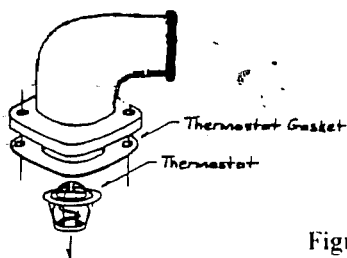

Figure 1
6. Clean thermostat housing gasket surface on the intake manifold. Insert thermostat, spring end down (Figure 1). Position the new thermostat gasket between thermostat and new SJE thermostat housing. Secure thermostat housing with the (2) 3/8" by 1" bolts and lock washers. Tighten the two bolts firmly and evenly.